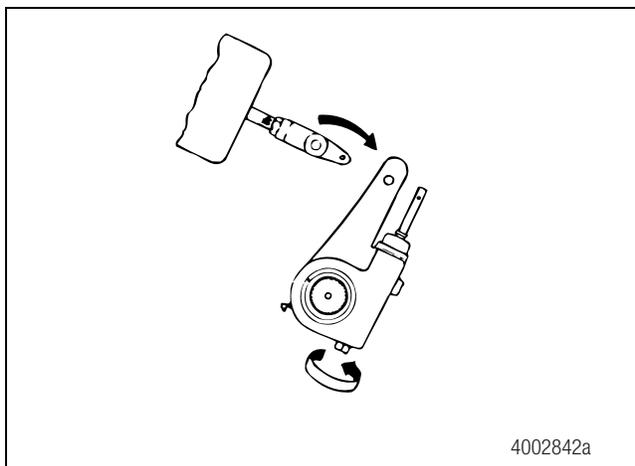

Figure 7.2
6. Use a wrench to turn the manual adjusting nut in the direction shown in Figure 7.2. Move the slack adjuster away from the clevis.